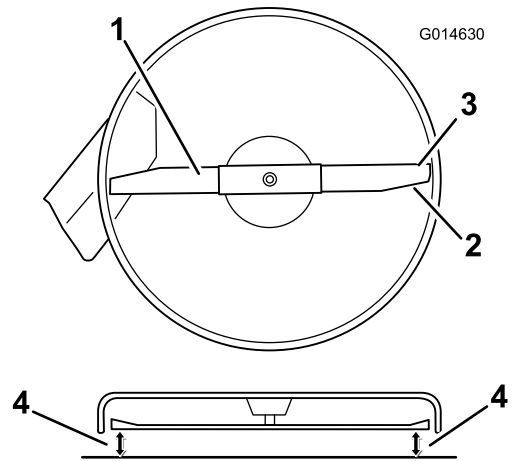

Figure 50
4. Carefully rotate the blade so that they are all side to side (Figure 50).
5. Measure between the outside cutting edges and the flat surface (Figure 50). If both measurements are not within 3/16 inch (5 mm), an adjustment is required; continue with this procedure.